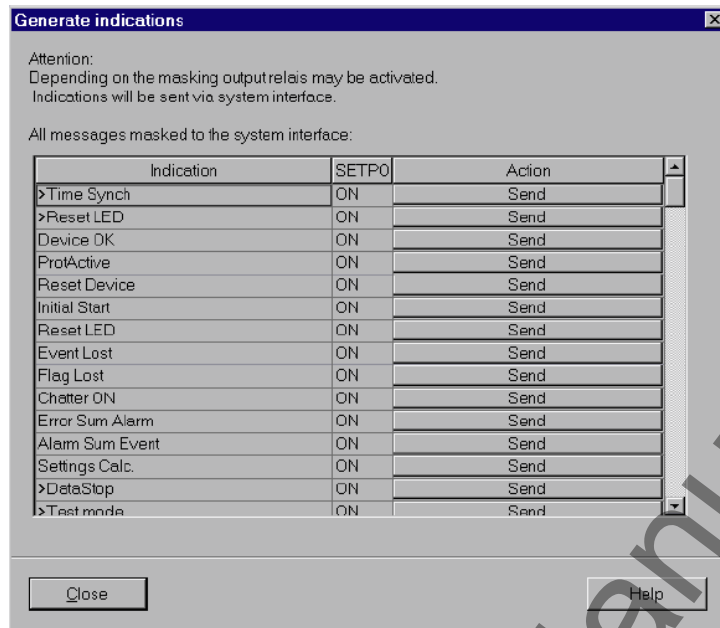

Figure 3-21 System interface test with dialog box: Generating indications – Example
- Double-click on **Testing Messages for System Interface** shown in the list view. The dialog box **Generate Indications** is opened (see Figure 3-21).